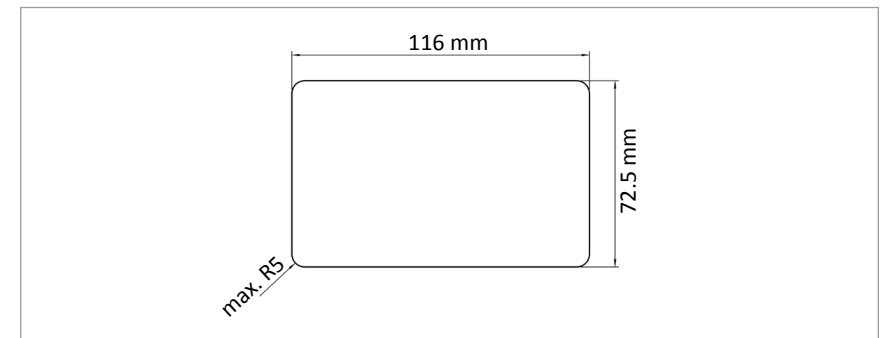

Fig. 7: Required dimension of the wall opening
2. Create the wall opening according to the dimensions in the Fig. 7.